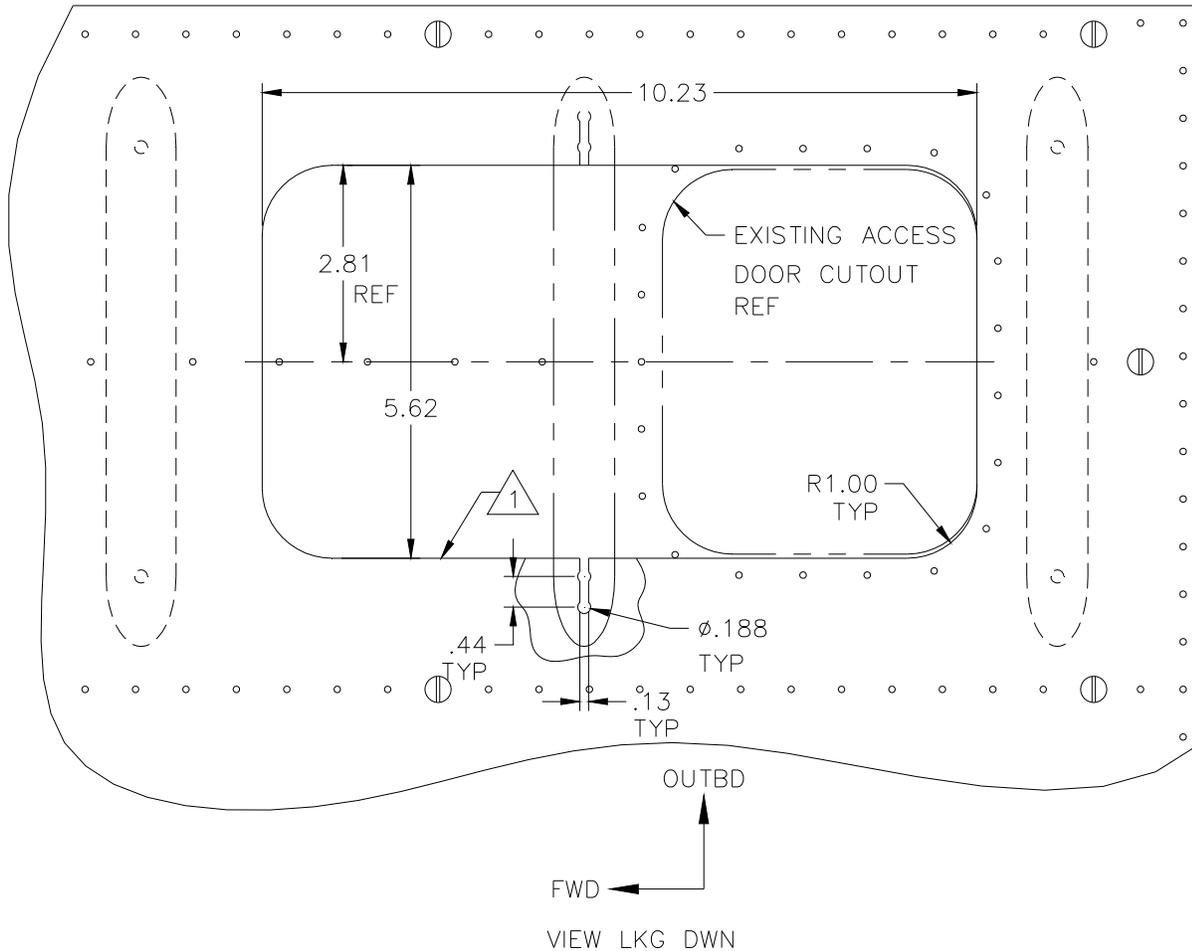

Figure 1
1. Remove the existing rivets, 21 places, and door/frame assembly, P/N 212-060-822-101, from the cowling, P/N 212-060-803-163. Reference Figure 1.
2. Cut a slot as shown only through the dimpled cowling skin. Flatten the dimple flush with the surrounding skin. Reference Figure 1.
3. While keeping the cowling relatively flat, layout and cut a new hole through the cowling as shown using the existing cutout as a datum. Reference Figure 1.